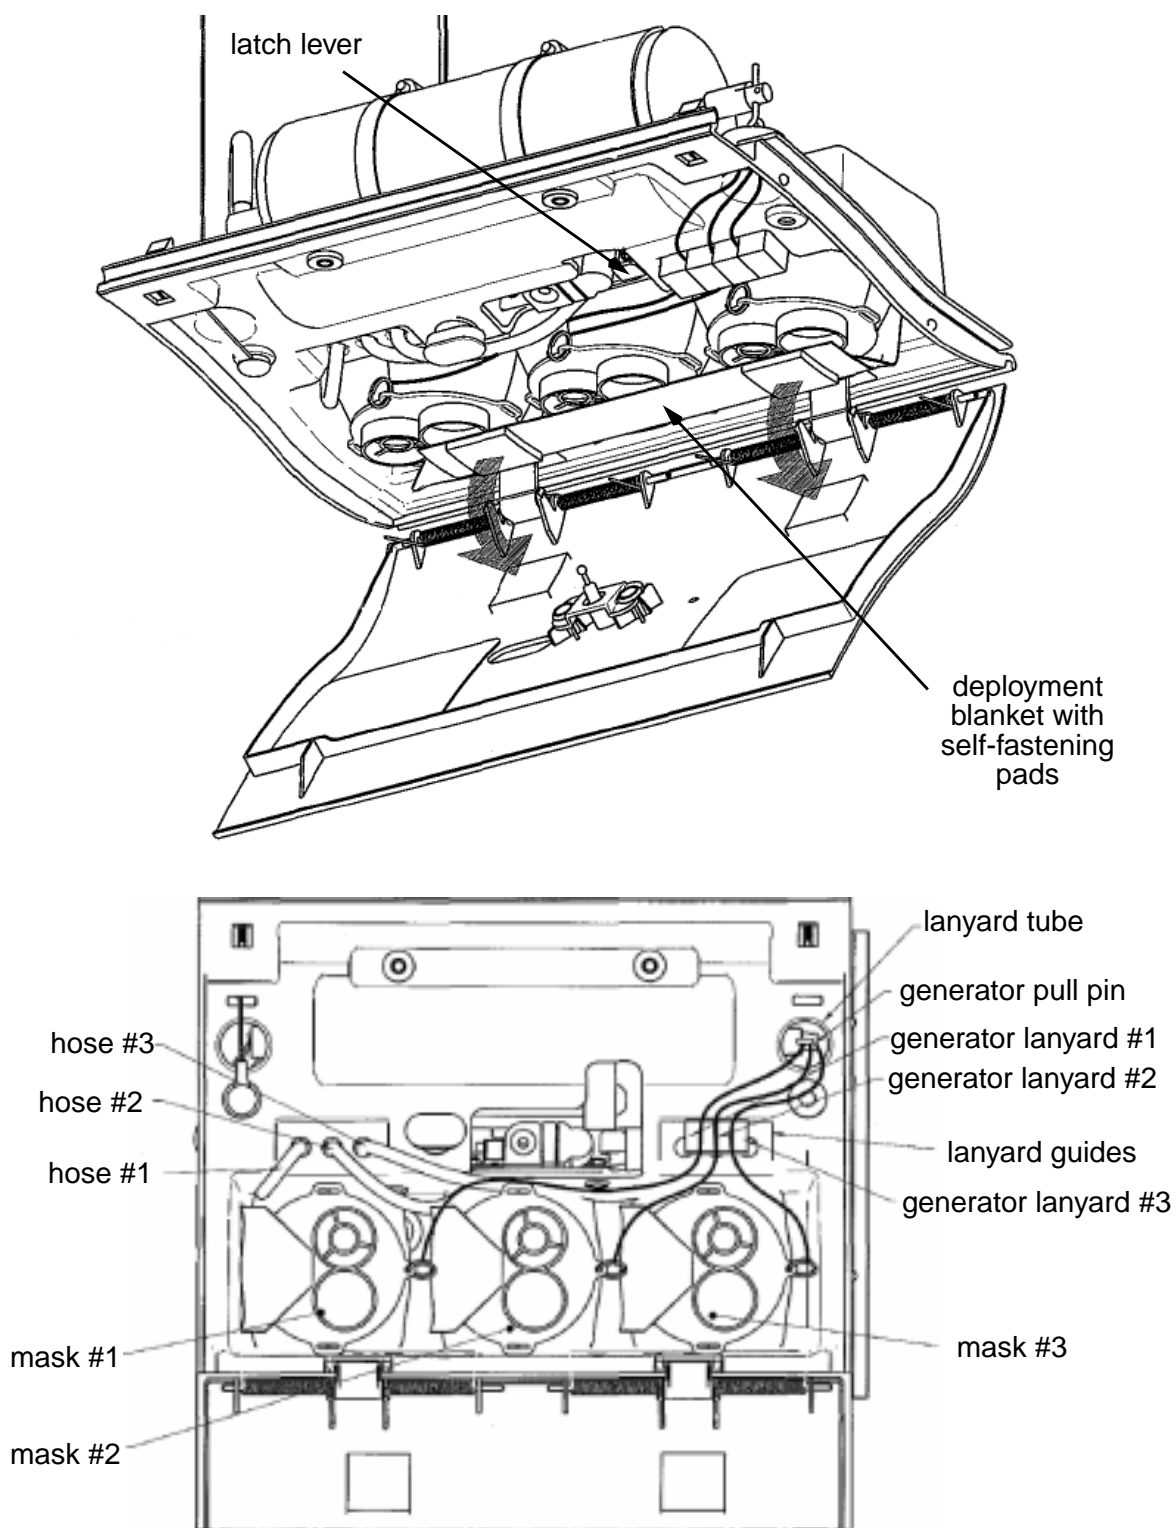

Figure 3 - Right Hand Passenger Mask Assembly
5.4 Re-Packing of Right Hand Passenger Mask Assemblies (see Figure 3)